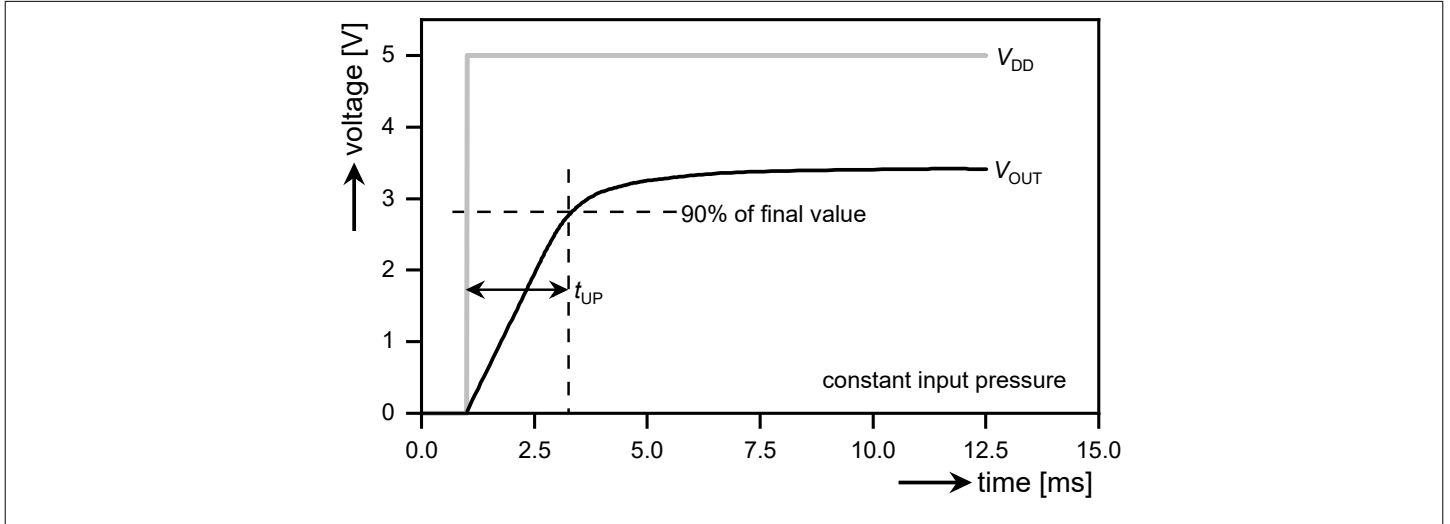

Figure 8 Power-up time
2) See Figure 8 for more details in section Timing properties